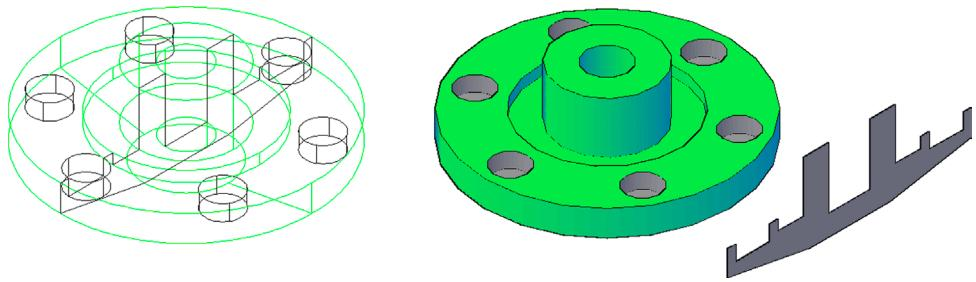

FIGURE 27.7 Completed section.
Step 4. Select the lower quadrant, also similar to the slice example. The section is created. You may have to switch to wireframe to see it, as shown on the left-hand side of Fig. 27.7. On the right-hand side the section is moved outside the 3D part, and both are shaded.